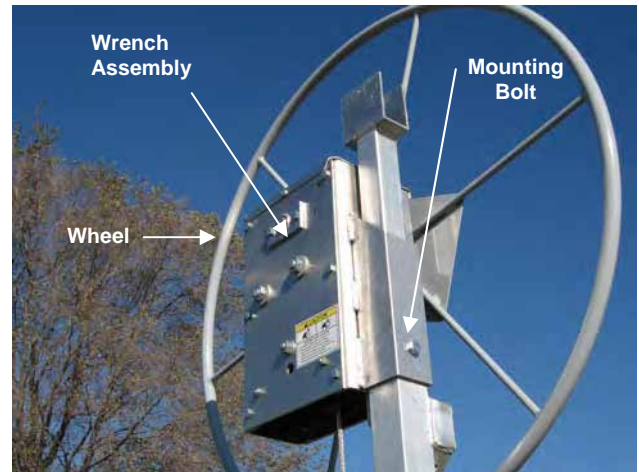

FIG. 20
1. Feed one end of cable up through bottom of winch frame and into the hole in cable spool (but not protruding beyond the spool hole). See FIG. 20.